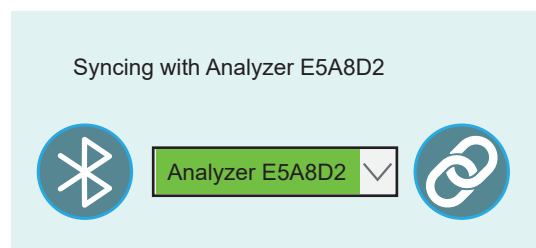

Figure 31. Syncing with Labmaster LUCIA™ Analyzer
3. Tap the Synchronize icon  to import data from connected LUCIA™ Analyzer. See Figure 31.
- **Syncing with Analyzer** followed by 'Bluetooth ID' will be displayed above drop-down menu. See Figure 31.
1. To retrieve a detailed view of a specific result, tap on the specific patient data. See Figure 31.